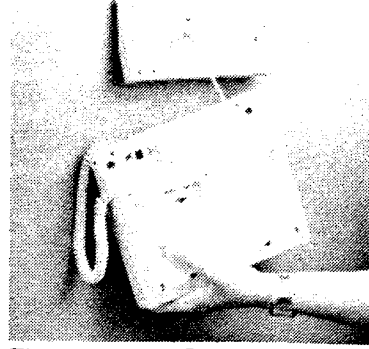

Figure 6.5 - Connect line cord
5. Connect the line cord between the modular jack and the telephone jack (right hand jack when viewed from the bottom as in Figure 6.5).